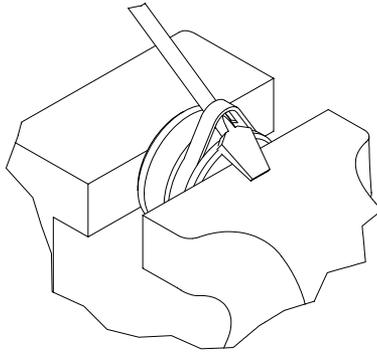

Figure 4-5, Piston Seal
7. Carefully pry up on the piston seals using a blunt tip screw driver being careful not to scratch the seal grooves. Cut the seals to remove from the piston. (Figure 4-5)